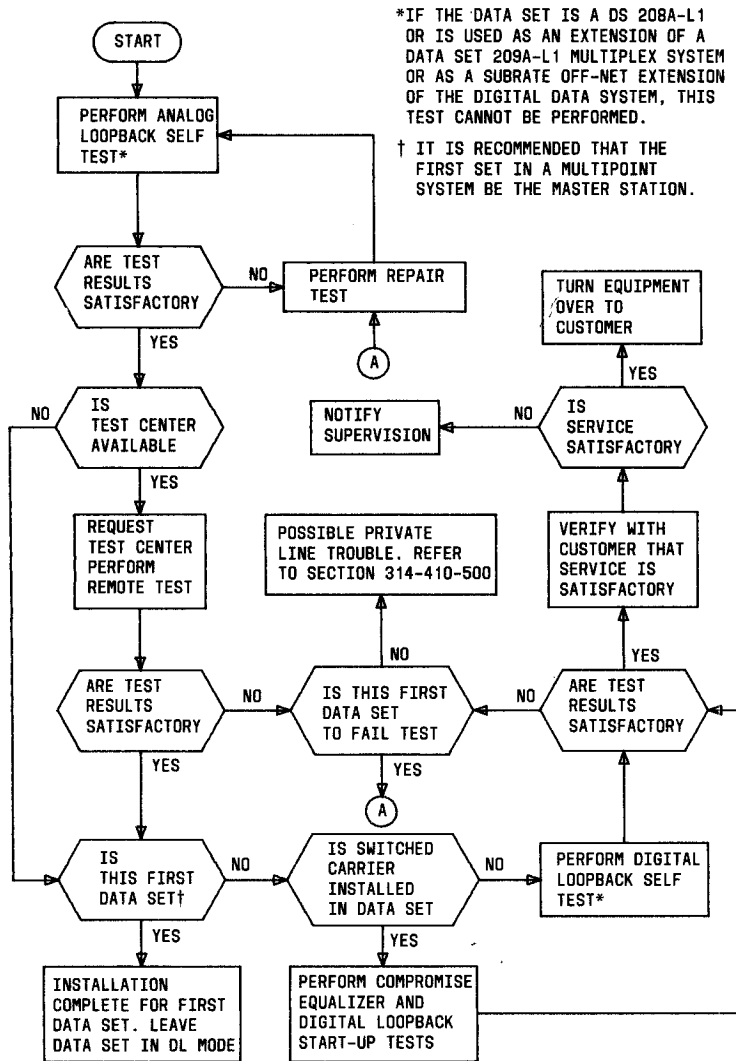

Fig. 2—Installation Test Sequence
**2.01** This part provides the sequence in which tests are to be performed following installation of the data set. This test sequence (Fig. 2) provides a method of verifying that the installation is satisfactory. Before proceeding with the tests, verify that the private line meets the requirements specified in Section 314-410-500.